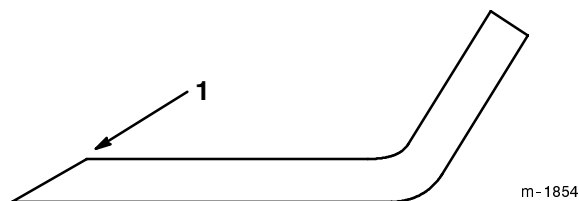

Figure 47
1. Use a file to sharpen the cutting edge at both ends of the blade (Fig. 47). Maintain the original angle. The blade retains its balance if the same amount of material is removed from both cutting edges.